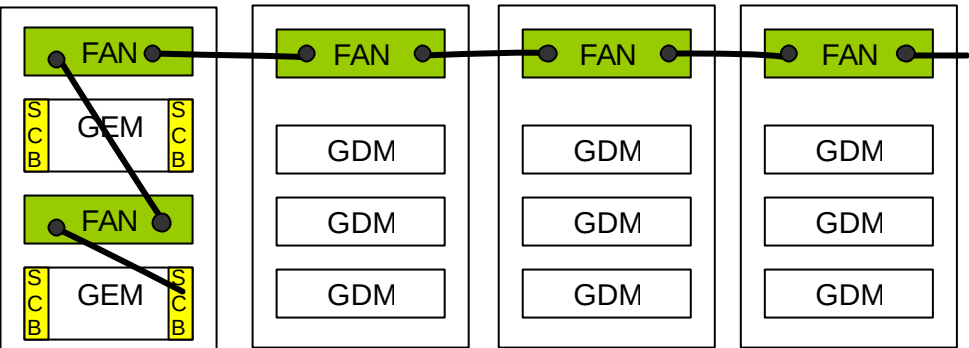

fig 3: Fan supervision of GEM and GDM fans in the same chain
Both fan units used for GDM and GEM magazines can be supervised in the same chain starting from SCB-RP board and controlled by the Regional Processor (RP) software. See fig 3.